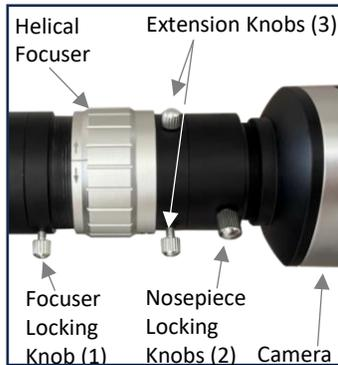

Fig. 4.5
- **Adjusting Focus:** Rotate the silver focuser ring on the OTA until the image appears sharp and clear. See Fig. 4.5 for the different parts of the focuser.